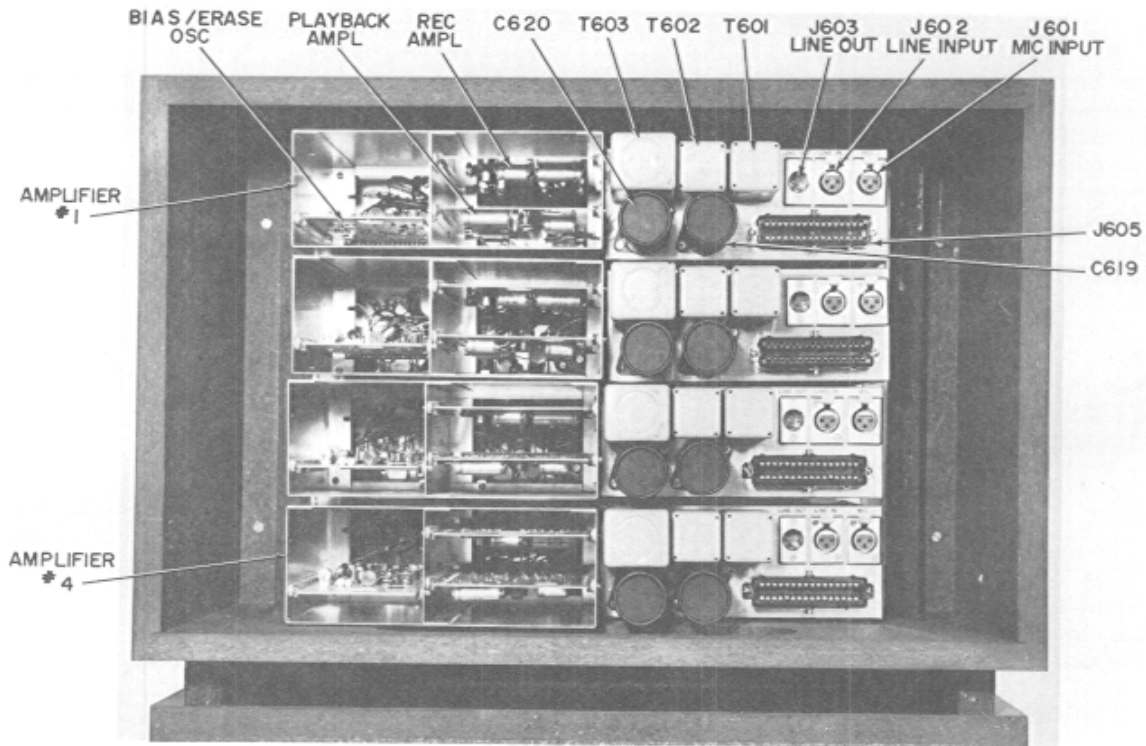

Figure 2-3. Rear of Amplifiers
and head sections. Before assembling the units, consult the interconnecting diagram (fig. 2-3) for the proper installation of cables.
2.5. OUTPUT (See figure 2-3.)
2.6. INPUTS (See figure 2-3.)